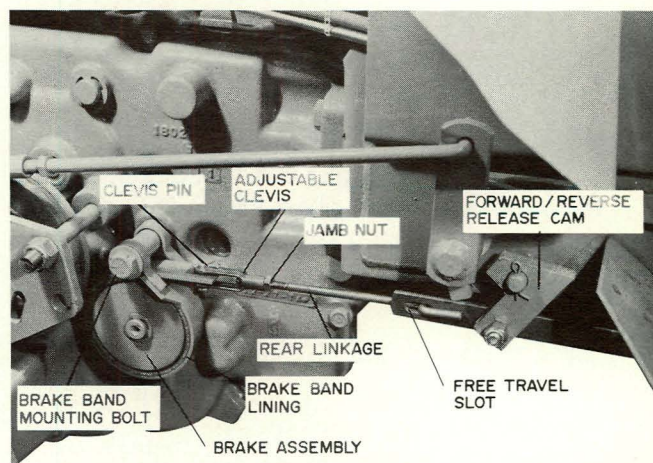

Figure 21
5. Remove clevis pin, loosen jam nut and turn clevis until the free movement is taken up in slot. Reconnect clevis and tighten jam nut. See fig 21.